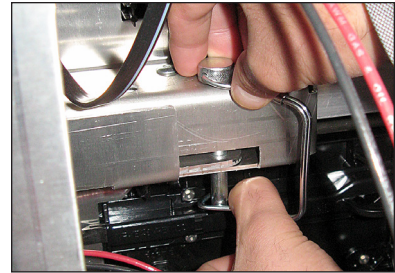

Figure 15: Remove Pins
1. Remove pins from one side of the enclosure (ISP, term panel, SmartLink, and spare parts rack). Refer to **Figure 15**.